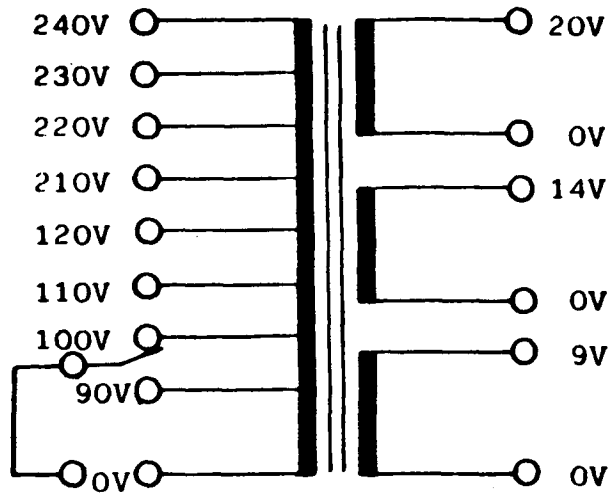

Fig. 7
9. Adjustments of Supply Voltage (See Fig. 7)